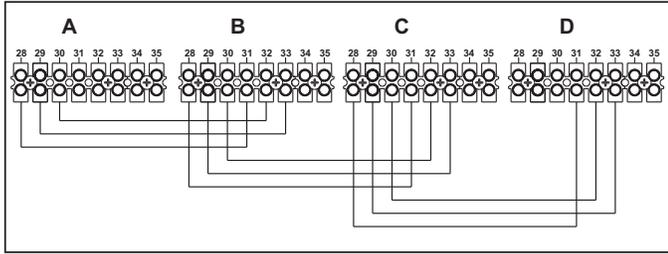

fig. 33 - Connection in cascade
1. Connect the modules as shown in fig. 33 (**example with 4 modules**)
If this does not occur, disconnect the power and check the wiring in fig. 33.